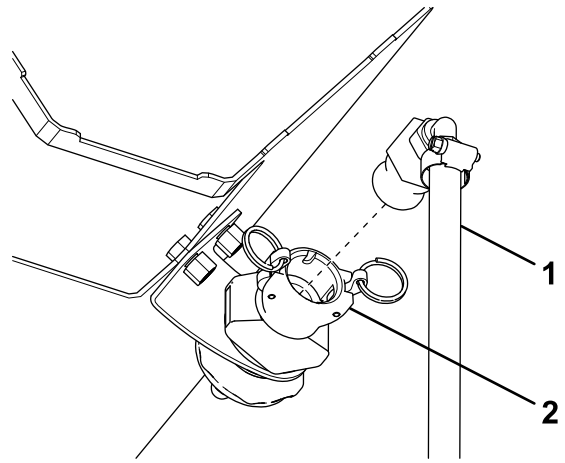

**Figure 66**
7. Raise the latches on the quick coupler and remove the spray nozzle (Figure 66).
13. Slide the spray nozzle into the quick coupler and lower the latches to lock it in place (Figure 66).